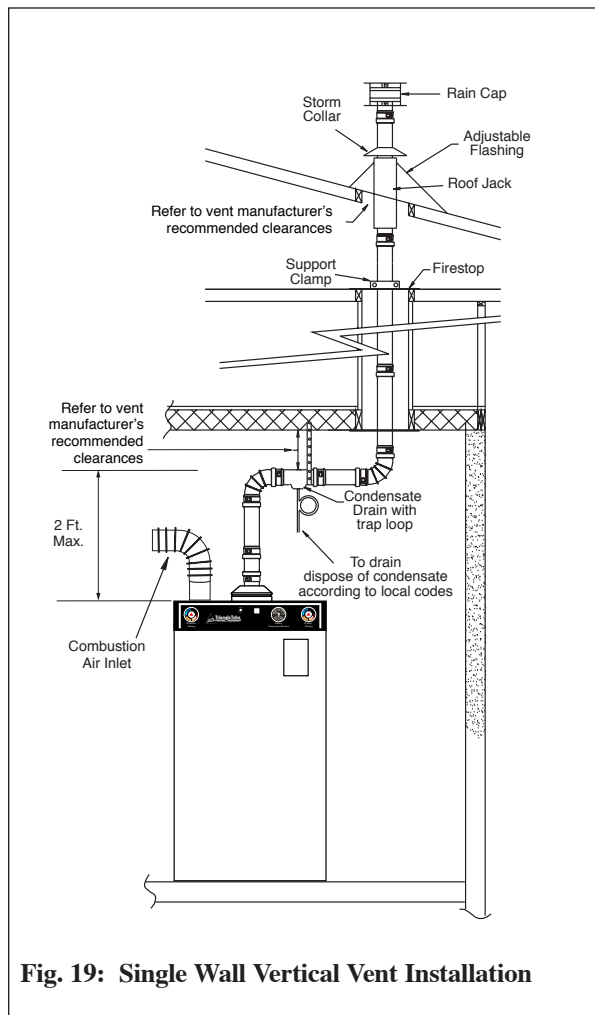

Fig. 19: Single Wall Vertical Vent Installation
- a. The vent system must contain a condensate trap located no higher than 2 feet above the unit. As shown in Fig. 19 page 35.
A vent condensate drain and drain tube should be installed near the appliance to prevent any potential condensate from entering the flue ways on the unit. See Figs. 19 through 22B pages 35 & 36.
To prevent flue gases from entering into the building it is important the drain tube is fashioned into a “pigtail” trap as shown in Figs. 19 through 22B pages 35 & 36.